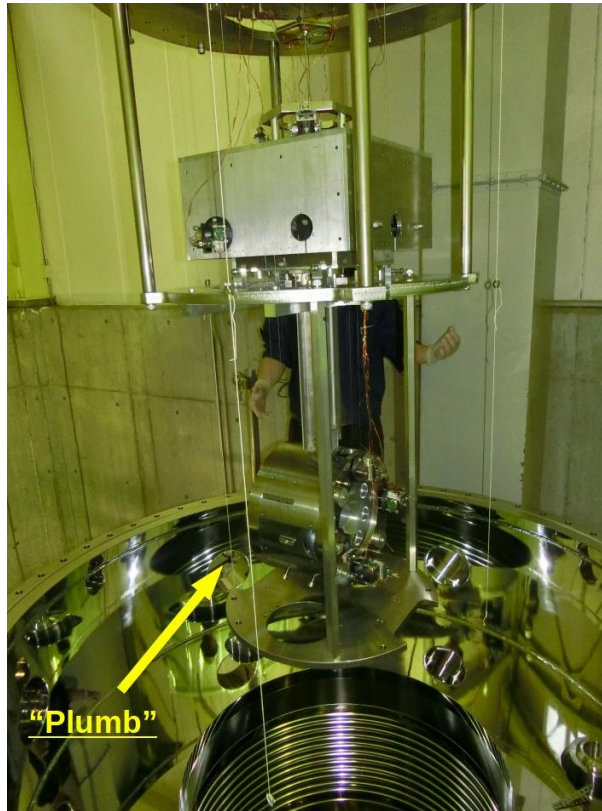

Fig.5: Plumbs as guides for suspension system installation
- Attach other plumbs to the EQS (Fig. 5)2. They are used as guides for positioning the suspension system when lifting it down. Note that the clearance between the suspension and the bellows where the suspension is inserted was only 8 mm in the prototype system, so we had to adjust the position quite finely.
In order to earn the lifting height as much as possible, in the case of the crane in TAMA, we had to bring up a chain-holder box so that it doesn't push the suspension system (see Fig. 5). In this configuration, the chain coming out from the crane was not stored in the box, so we had to prepare another paper box for receiving it. One person had to control the chain during the crane operation so that it doesn't touch to the suspension system and make it dirty by oil.